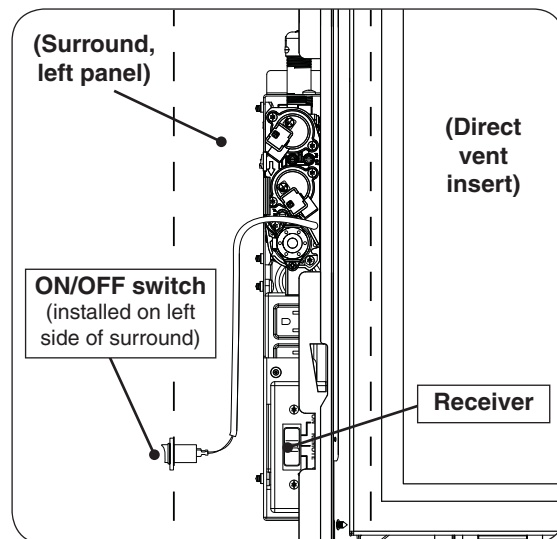
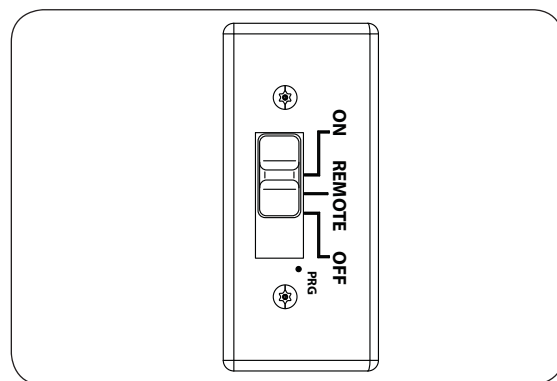
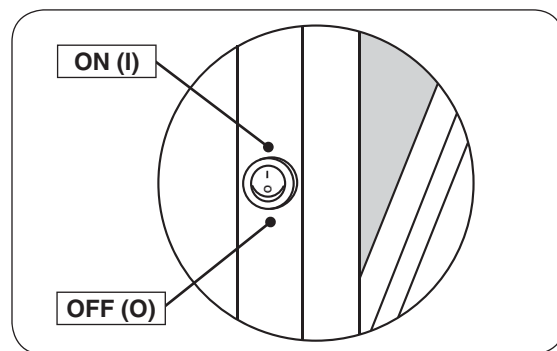

Fig. 41-1 Control box (left side, behind surround)
Fig. 41-2 Receiver detail
Fig. 41-3 ON/OFF switch detail
1. The control box is on the left side of the unit. Locate the receiver on the control box (see Fig. 41-1). Slide the 3-position switch on the receiver to the **ON** position (see Fig. 41-2).
2. Locate the ON/OFF switch on the left side of the surround (see Fig. 41-1). Switch it to the **ON (I)** position (see Fig. 41-3). The ignition sequence will begin.